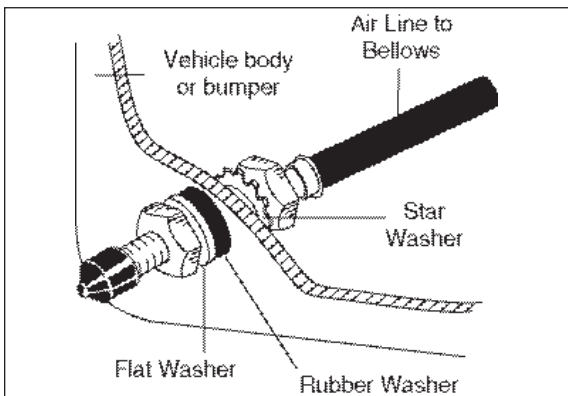

Figure 10
5. Install the inflation valves as shown in Figure 10.